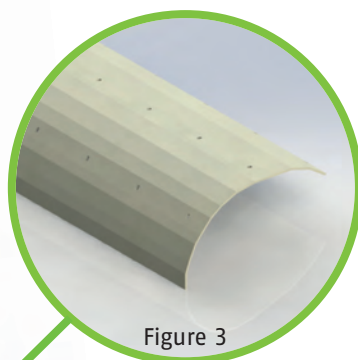

Figure 3
- **Wear protection insert** made of high-strength steel (Figure 3)